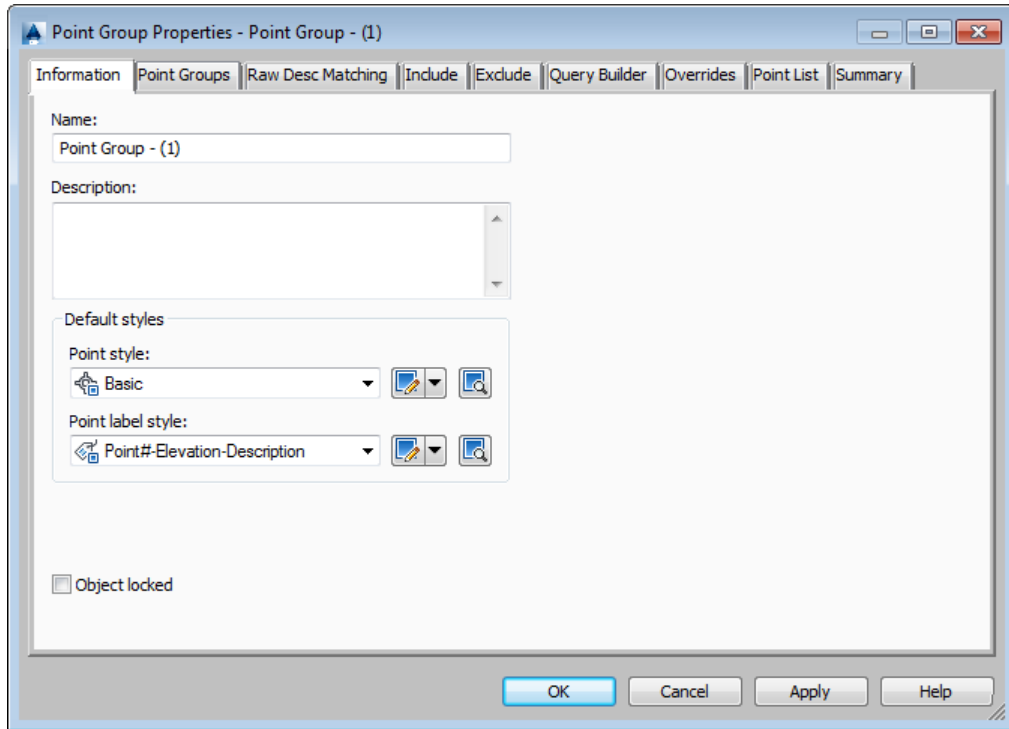

Figure 2-44 The *Point Group Properties - Point Group - (1)* dialog box
Point groups are created based on point properties. You can group points based on their point numbers, elevation, description, and so on. To create a point group, choose **Create Point Group** tool from the **Create Ground Data** panel; the **Point Group Properties - Point Group - (1)** dialog box will be displayed, as shown in Figure 2-44. The options in the dialog box are discussed next.